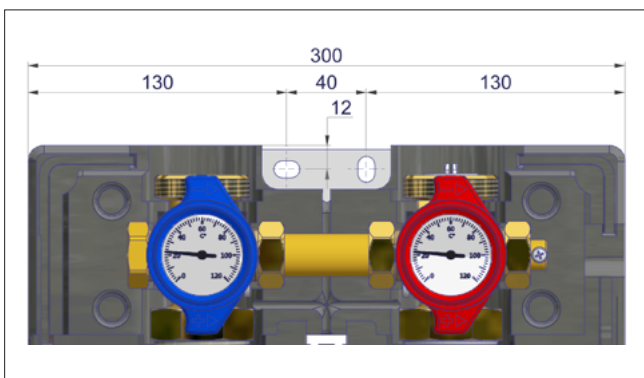

Fig. 7-1: Installation diagram
2. Mark the drilling points for installing pump group (see „Fig. 7-1: Installation diagram“).
3. Drill the holes corresponding to the screw and anchor size (see „Fig. 7-1: Installation diagram“).
6. Place the pump group to the wall in a vertical installation position (see „Fig. 7-1: Installation diagram“).
8. Remove the thermometer handles (B) and dismantle the intermediate insulation (C).